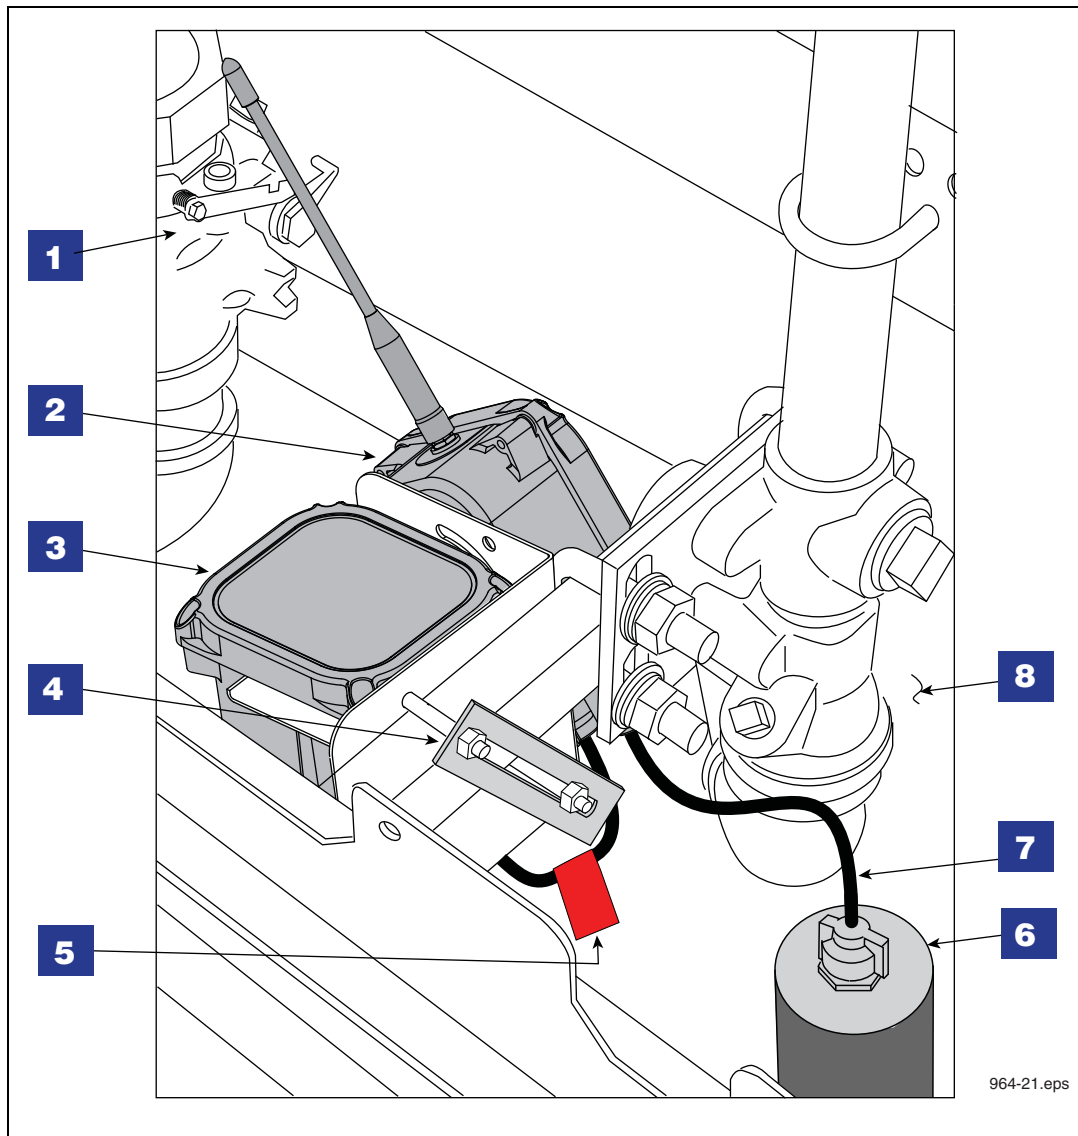

Figure 20. Example Transmitter Installation In Dispenser Sump
4. Get the 1 inch by 6 inch slotted flat bar from the kit and two $\frac{1}{4}$ x 3-inch bolts and two nuts. Clamp the bracket to a section of the square support tubing in the sump, below the shear valve (see Figure 20).
LEGEND FOR NUMBERED BOXES IN Figure 20